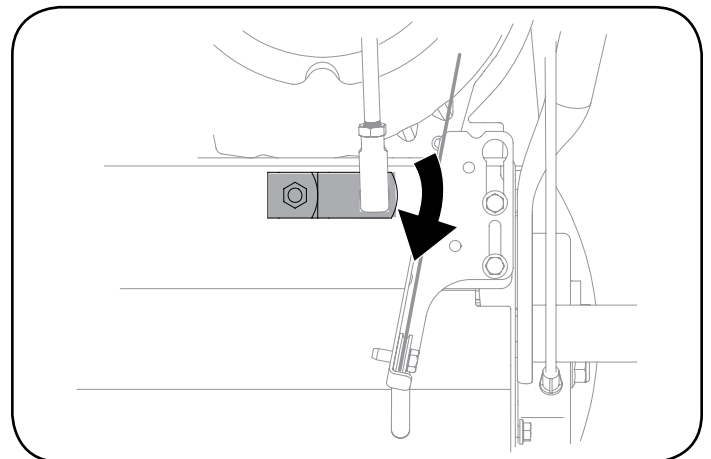

Figure 50
3. Pivot shift bracket downward as far as it will go. See Figure 50.